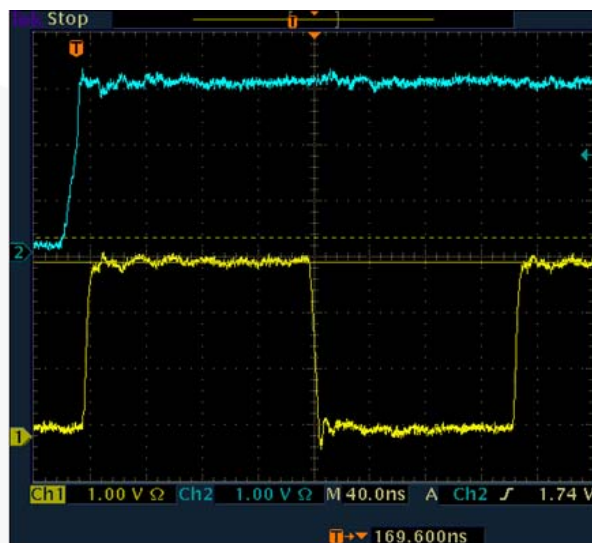

Figure 13. Scope Shot of I/O and Clock Signals
Due to open-drain technology, hosts and SIM cards do not use push-pull drivers on the I/O pin. Logic LOWs are pulled down (I_{sink}), while logic HIGHs are “let go” (3-state). During a logic LOW on the I/O pin, both series NpassGates are turned on and act like a very low resistive short between the host and the SIM card. When the host or card lets go of a previously held LOW on the I/O pin, the rise time is largely determined by the RC time constant, where R is the internal pull-up resistor (10K Ω) and C is the I/O signal trace capacitance. The FXLA2203 acts as a very low resistive short between the host and SIM card (during a LOW) until either of the port's $V_{CC/2}$ thresholds are reached. After the RC time constant has reached the $V_{CC/2}$ threshold of either port, the port's edge detector triggers both dynamic drivers to drive their respective ports in the LOW-to-HIGH (LH) direction, accelerating the rising edge. The resulting rise time resembles the CH2 waveform (blue) of Figure 13. Effectively, two distinct slew rates appear in the rise time. The first slew rate (slower) is the RC time constant of the I/O signal trace. The second slew rate (faster) is the dynamic driver accelerating edge.